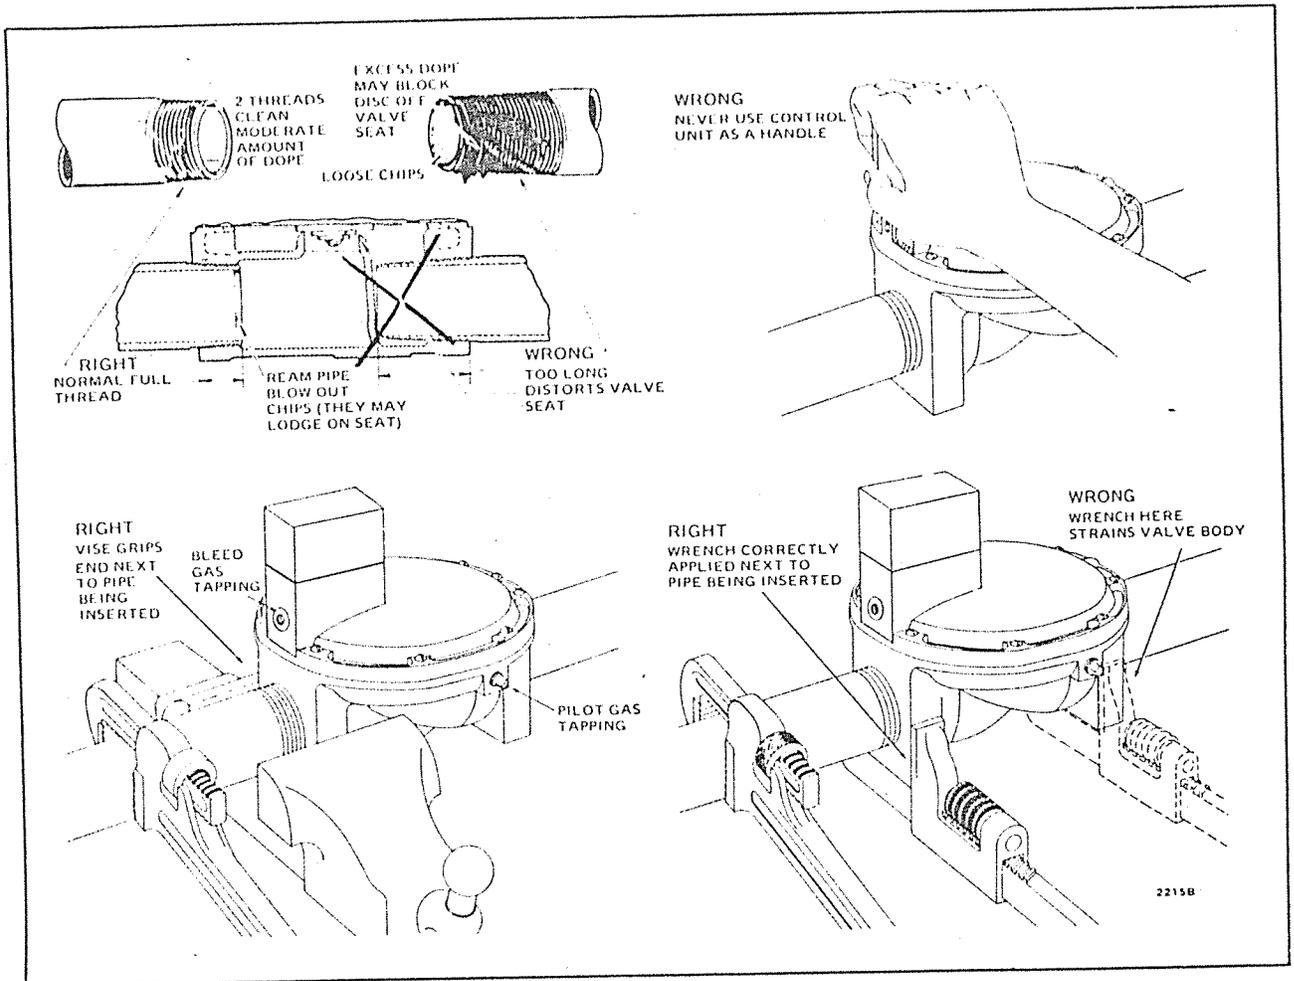

FIG. 2—VALVE PIPING.
2. Unscrew brass compression fitting from pilot gas tapping (Fig. 2). Slip the fitting over the tubing and slide out of the way.